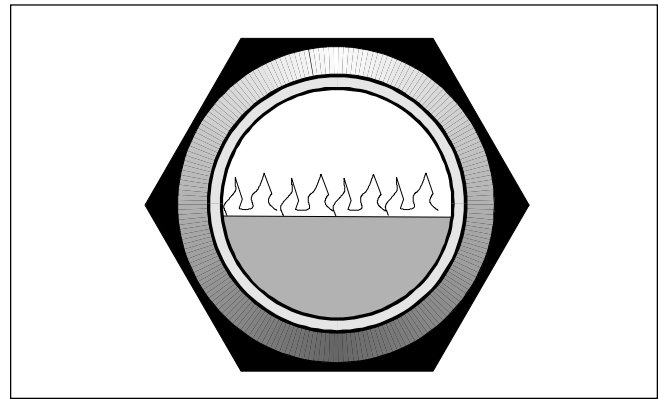

Figure 28. Burner Flame (visible near top of heater in mirror).
5. Make a visual check of the main burner flame. The flame can be seen in a mirror/viewport arrangement in the upper part of the heater. The flame should be light blue and the burner surface should be dark, with only a few glowing fibers (see Figure 28).